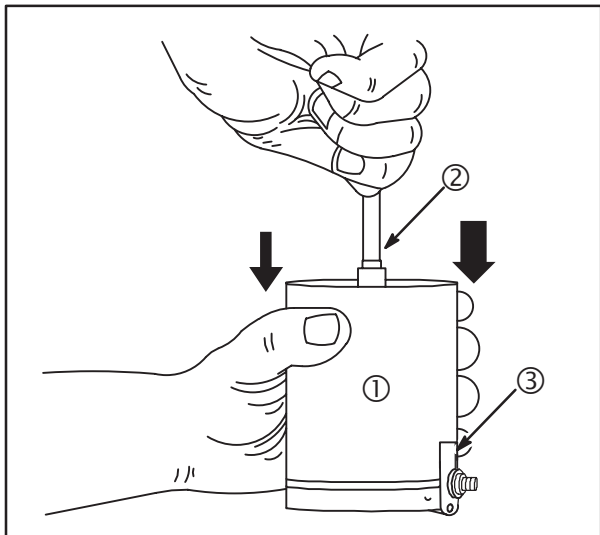

Fig. 27
The starter housing (1) has a large notch (3) which indexes over the insulated terminal, **Fig. 27**.
2. Slide starter housing (1) over armature (2), aligning notch with insulated terminal.